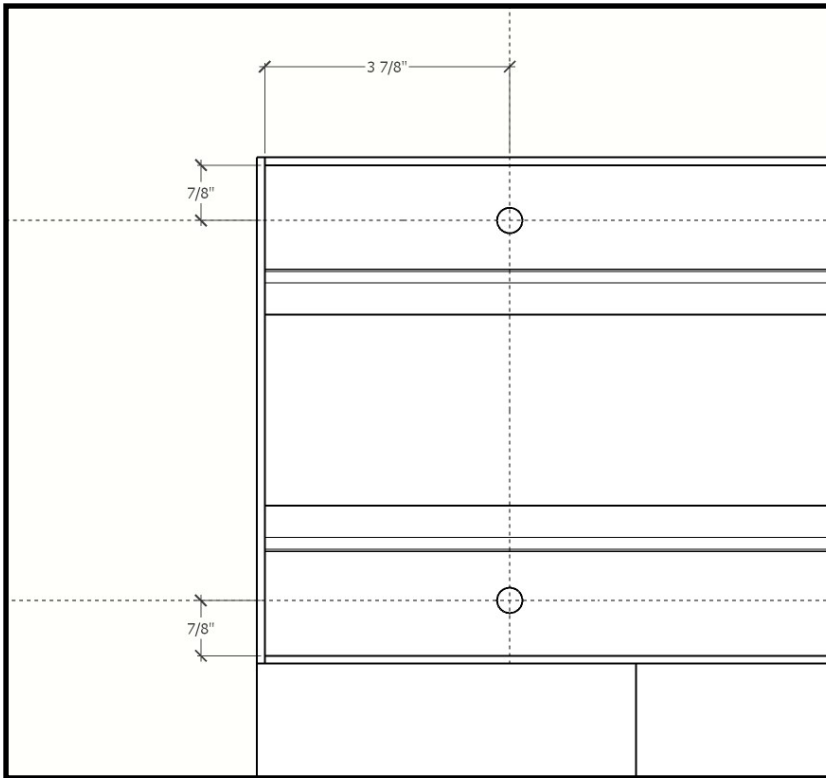

Fig 9
7. At each post, mark hole locations on the inside of the frame channel as shown in fig 9.